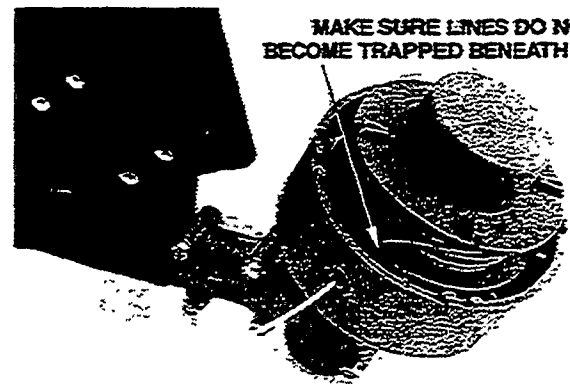

Figure 22
- **Note:** Be certain that lines do not become trapped under the spool (Figure 22).